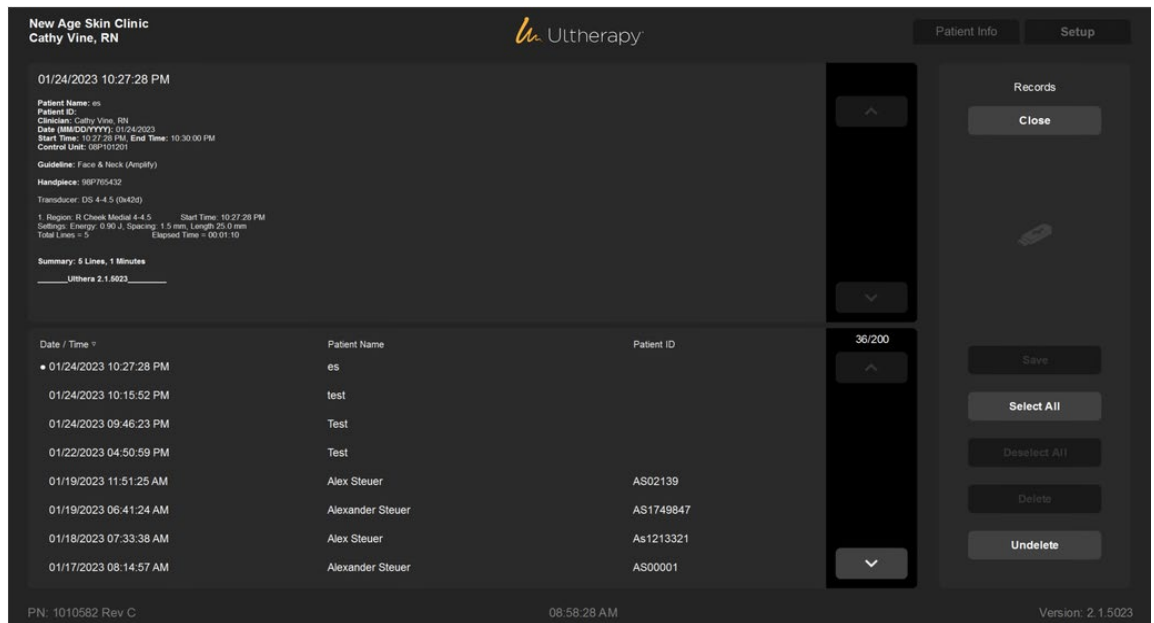

Figure 7.11 Patient Image Record List
1. On the **Setup** screen, tap the **Images** button to view a list of treated patients like the one shown in Figure 7.11: